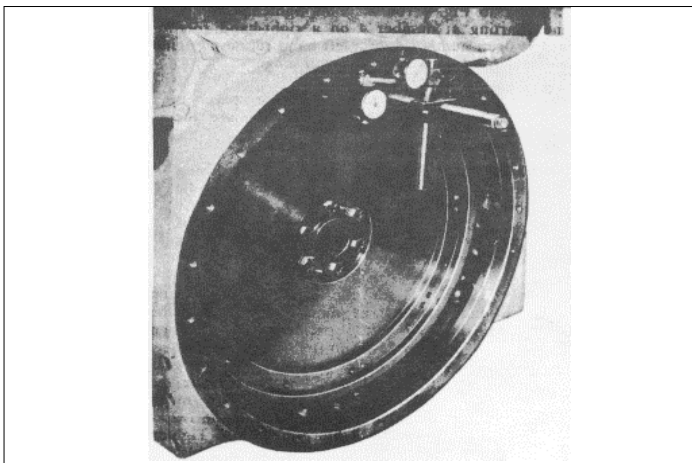

Fig. 5
- (9) Check the flywheel housing concentricity and bolting flange face with tool set J 9737-01 as follows:
- (a) Refer to Fig. 5 and thread the base post J 9737-3 tightly into one of the tapped holes in the flywheel. Then assemble the dial indicators on the base post with the attaching parts provided in the tool set.